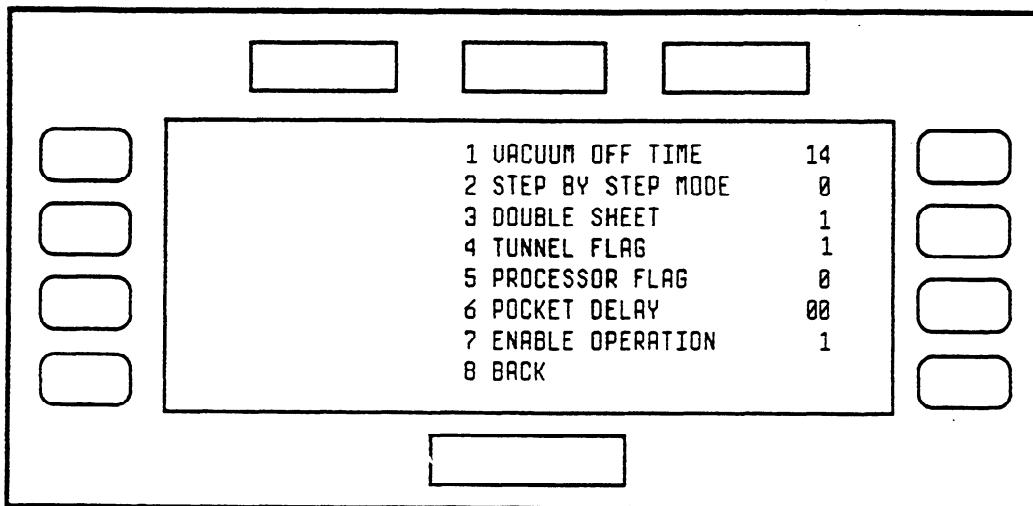

figure 9
- 7 Press KEY 8 to get the display as shown in figure 9.